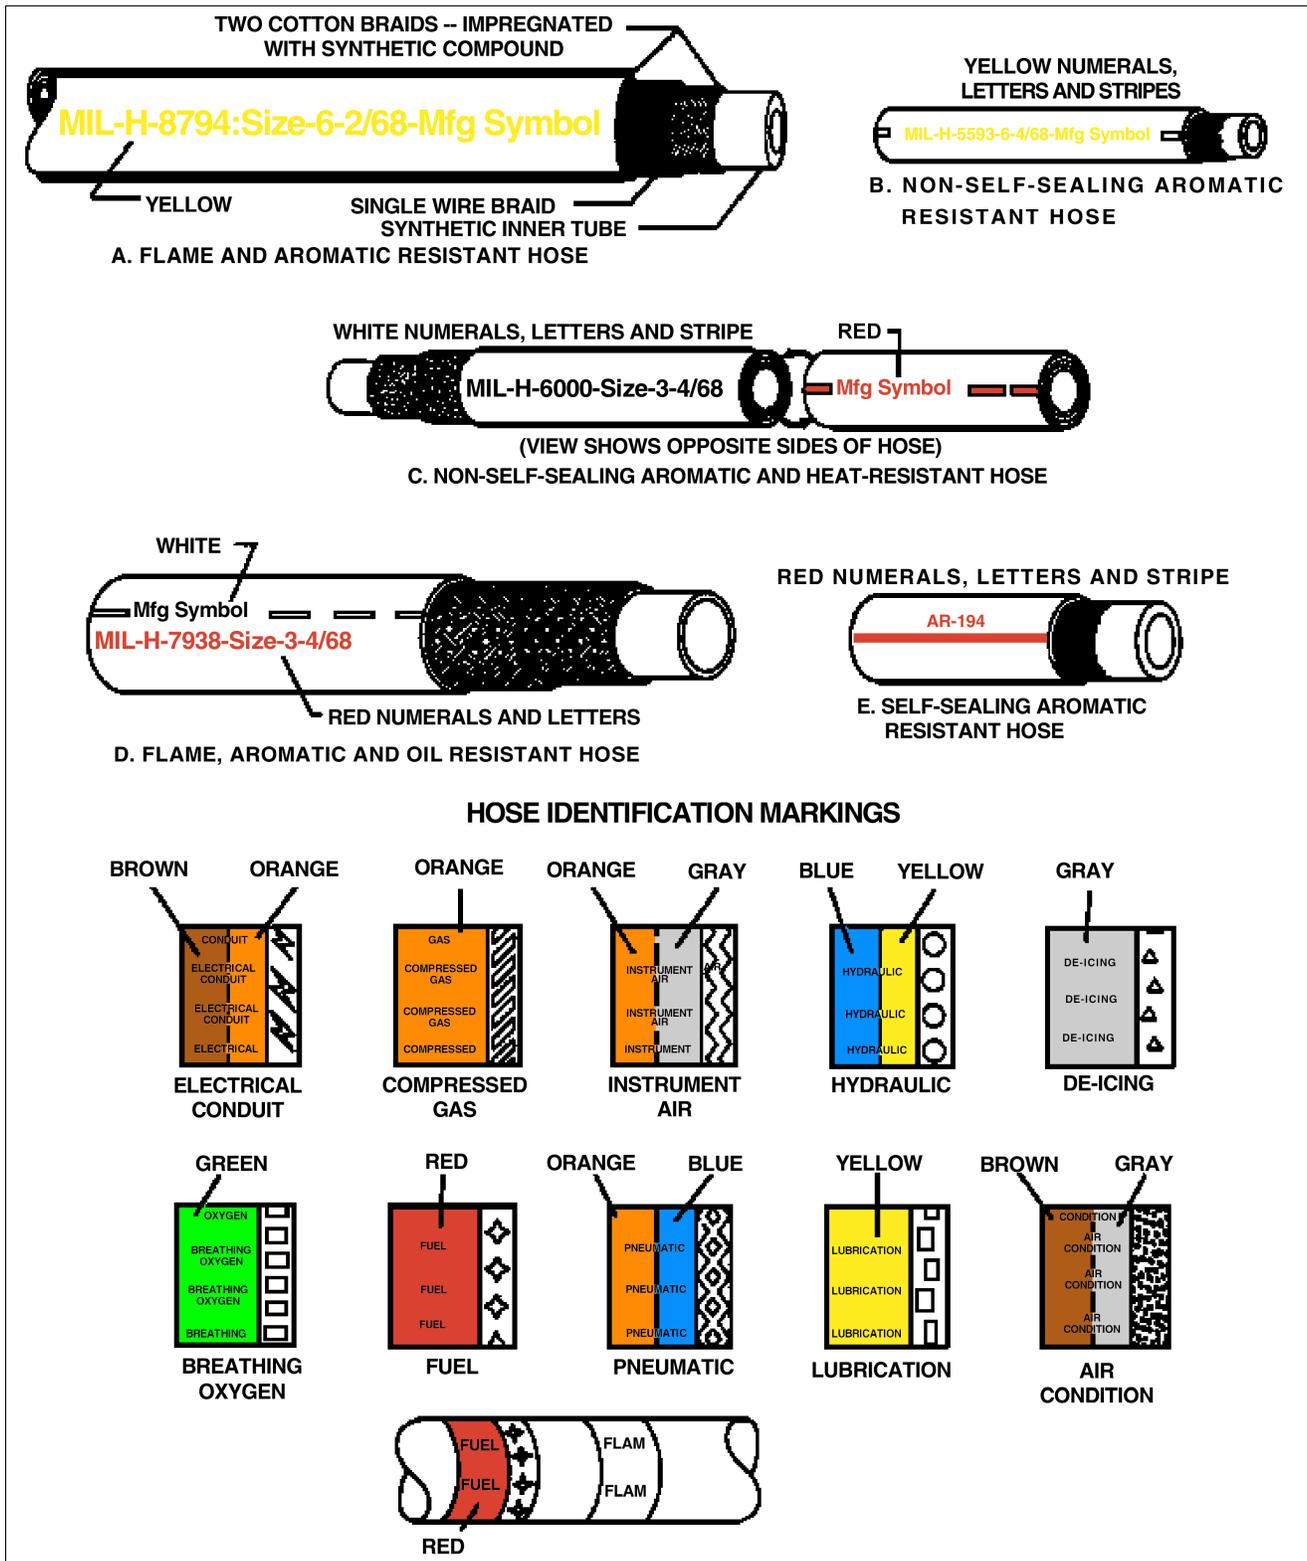

Figure 20-4. Hose, Tube and Line Markings
E. Identification of Fluid Lines (Refer to Figure 20-4)